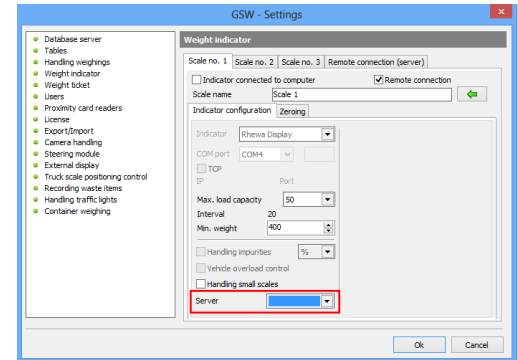

Fig. 41 Window of configuring weight indicator on a PC, which is to gain access to it
3. Select "Remote access" option - server name should appear in the bottom window - previously entered on a PC Fig. 41)